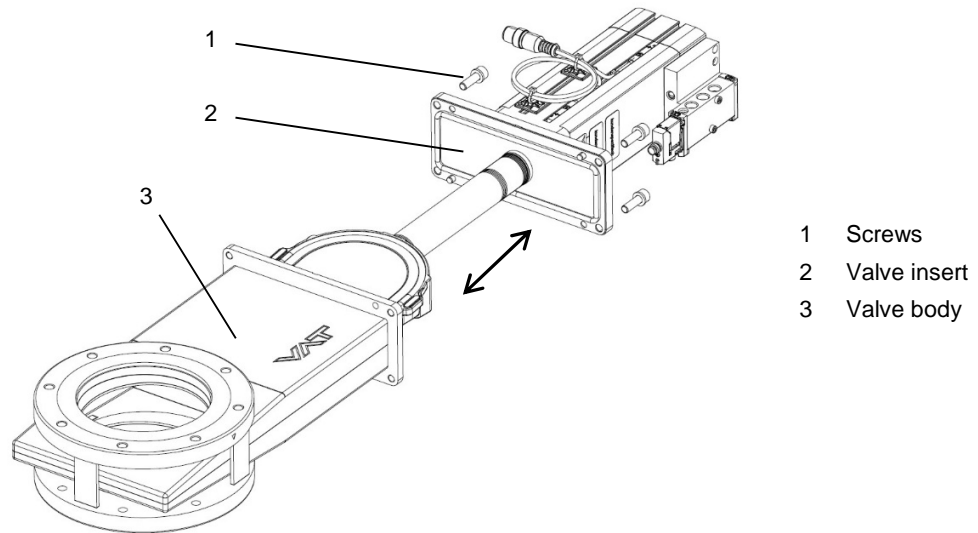
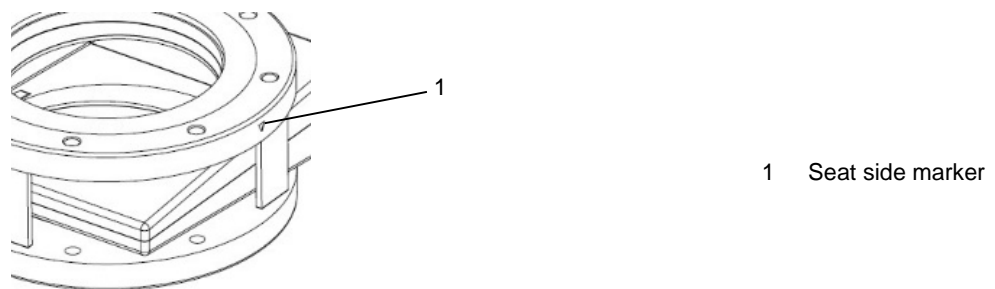

Figure 7-1
Figure 7-2
5. Remove screws (1); see «Figure 7-1» on page 17.
6. Pull out valve insert (2) from valve body (3); see «Figure 7-1».
7. Identify seat side marker "∇"; see «Figure 7-2».
15. Mount valve insert (2) into the valve body (3); «Figure 7-1» on page 17. Assure that the gate O-ring is facing the valve body seat side marker "▼"; see «Figure 7-2» on page 17.
16. Mount screws (1) according to «Figure 7-1» on page 17.